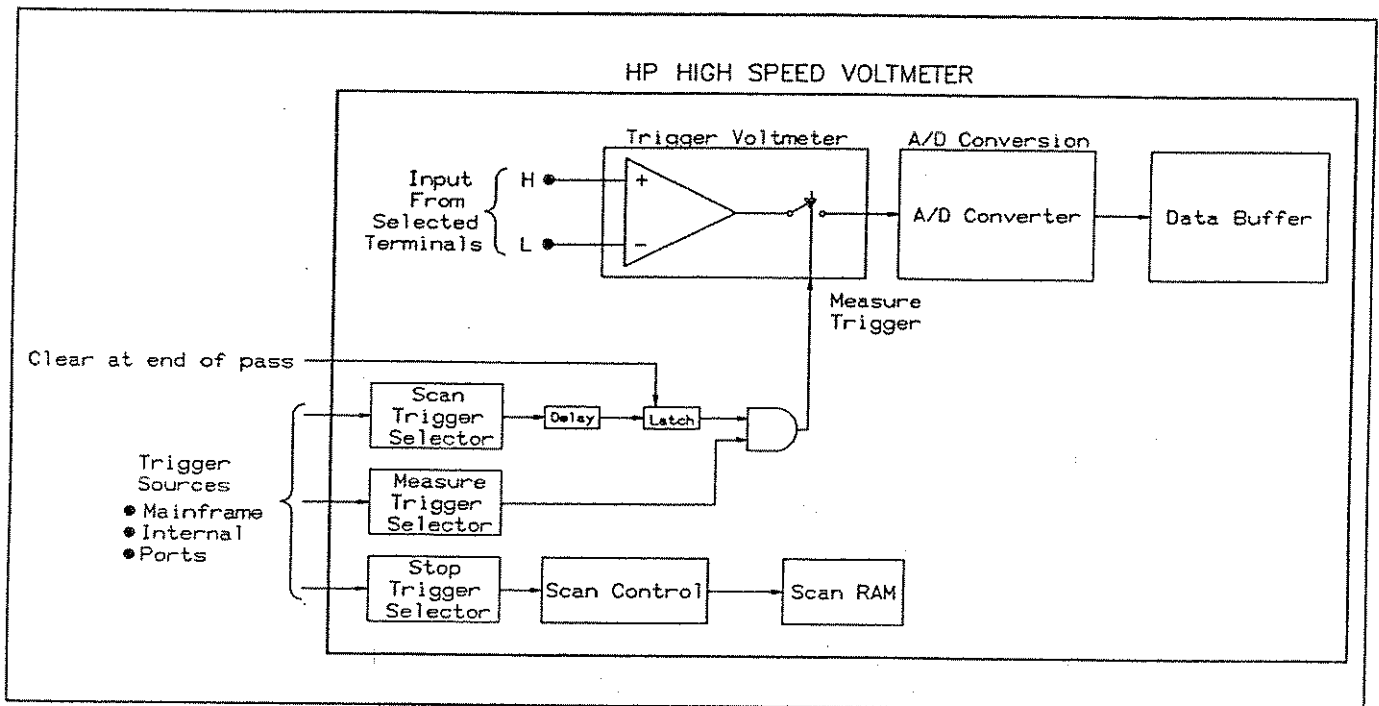

Figure 5-10. Voltmeter Trigger Operation
**Voltmeter Trigger Operation** Figure 5-10 shows simplified voltmeter trigger operation. The measure trigger triggers the voltmeter to make a measurement. Each measurement is then converted and sent to the voltmeter data buffer. There are three main sources for the scan, measure, and stop trigger: mainframe backplane, voltmeter internal, and voltmeter port triggering. These sources are discussed in the next subsection "Voltmeter Trigger Sources".